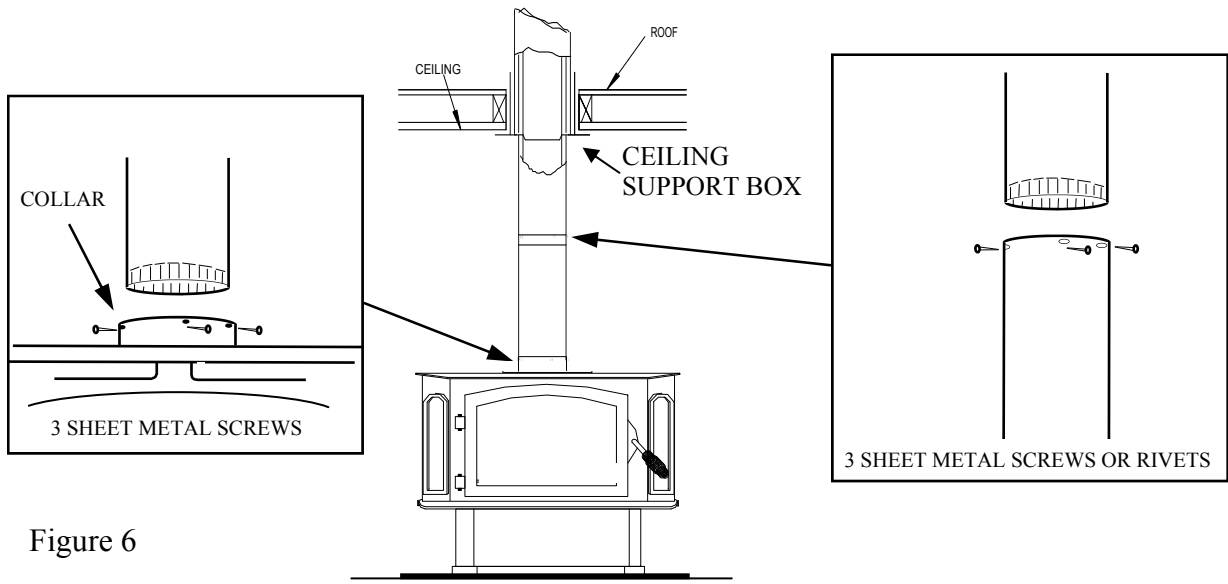

Figure 6
3. Now connect stove and ceiling support box using #24 ga. minimum blued or black steel connector pipe (**DO NOT USE GALVANIZED PIPE**). Connect each section so crimped end faces downward, and secure each section to each other using at least three (3) sheet metal screws or rivets. Also use three (3) sheet metal screws to fasten pipe to collar on heater (See Page 20, Figure 6) or you may use 3 "Ell" brackets fastened to top of heater and fastened to stove pipe.